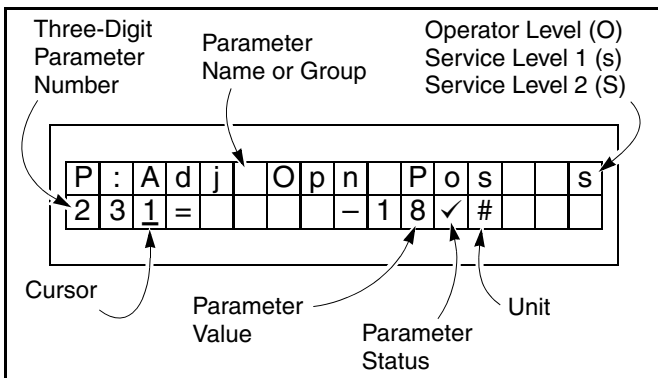

Figure 29
3. Briefly press the enter (●) key to save the displayed value. The cursor will then jump over to the three-digit parameter number. (See Figure 29.)